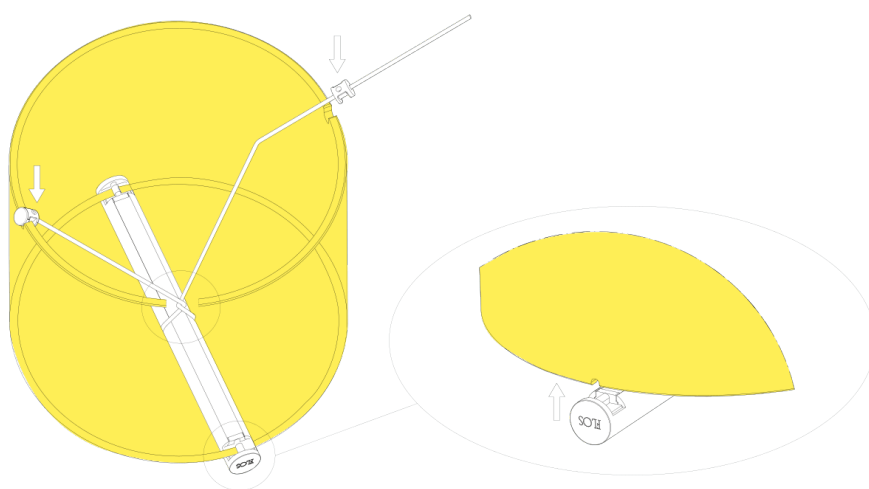

Fig.3
Disconnect the female connector (C) from the male connector (G).(Fig.3)